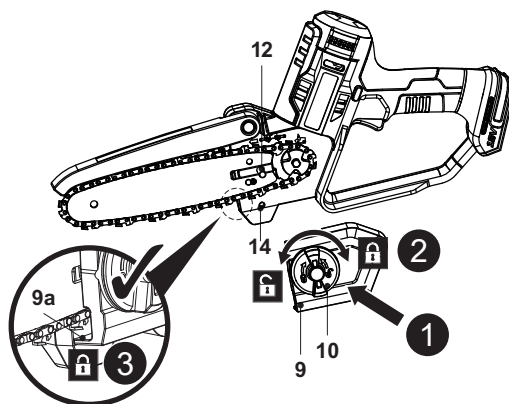

Fig. 5
**NOTE:** The product is equipped with an automatic chain tensioning device, which can correctly tension the saw chain (16) without making any adjustments.
10. Align the tab under the sprocket cover (9) with the locating hole (14) and place the sprocket cover (9) over the mounting bolt (12) (Fig. 5, step 1).
11. Refit the sprocket cover (9) and tighten the locking knob (10) clockwise (Fig. 5, step 2). Ensure that the tab engages correctly in the locating hole (14) and the chain catcher (9a) is secured in place (Fig. 5, step 3).